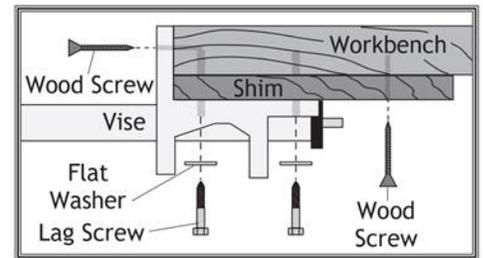

Figure 2 - Mounting Vise to Workbench with Shim
2. If the workbench is less than 2-3/8" thick, use a shim, as shown in figure 2, to adjust the workbench to 2-3/8" thick.